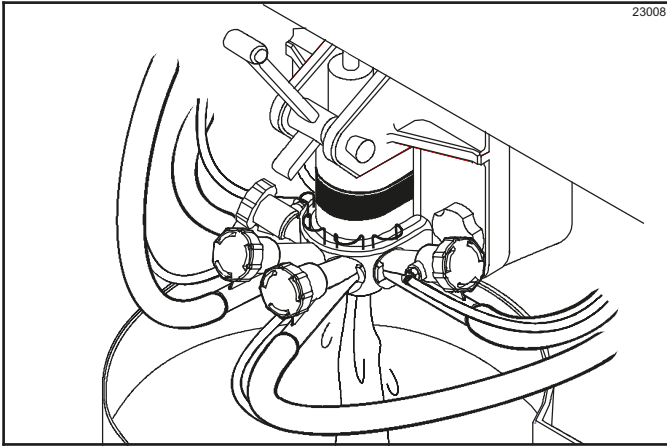

Figure 6-66
4. With a pail under the door spout, press the WASH and PUMP keys. Open the draw valve and start to drain the product from the freezing cylinder and mix hopper. (See Figure 6-66.)